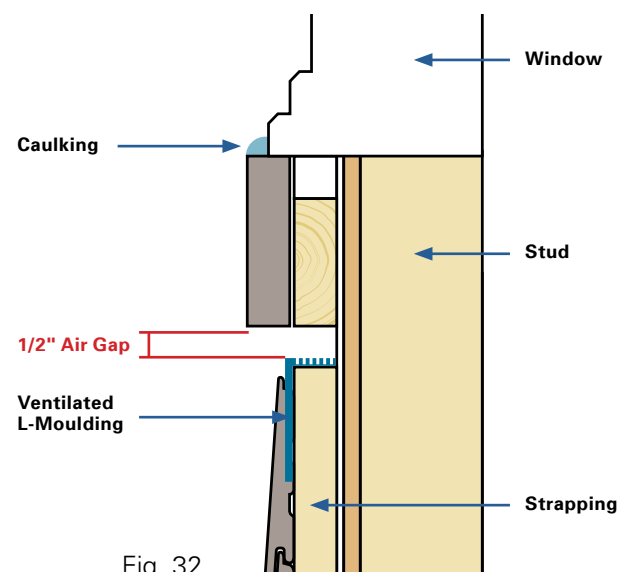

Fig. 32
- Install Fraser Ventilated L-Moulding to allow air flow, and prevent insects from nesting behind the siding. *(See Figure 32)*